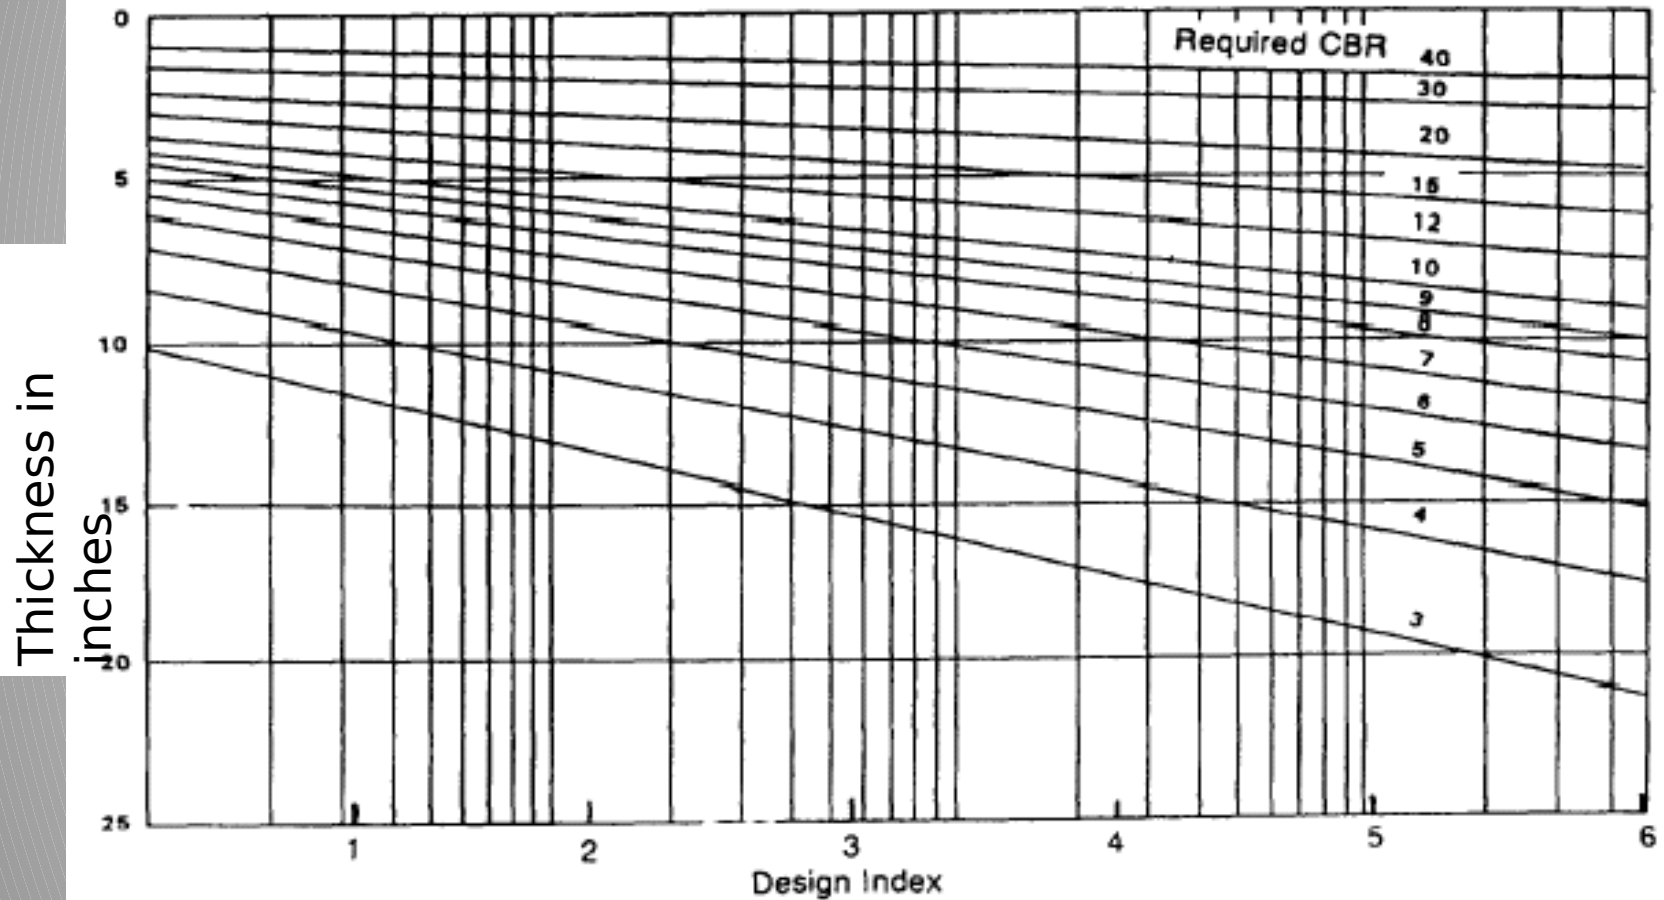

Figure 9-51. Unsurfaced-soil thickness requirements
- **7. Determine the required unsurfaced-soil thickness from Figure 9-51. Given a design index of 3 and a required CBR of 10.8, the required thickness from Figure 9-51 is 6 inches.**